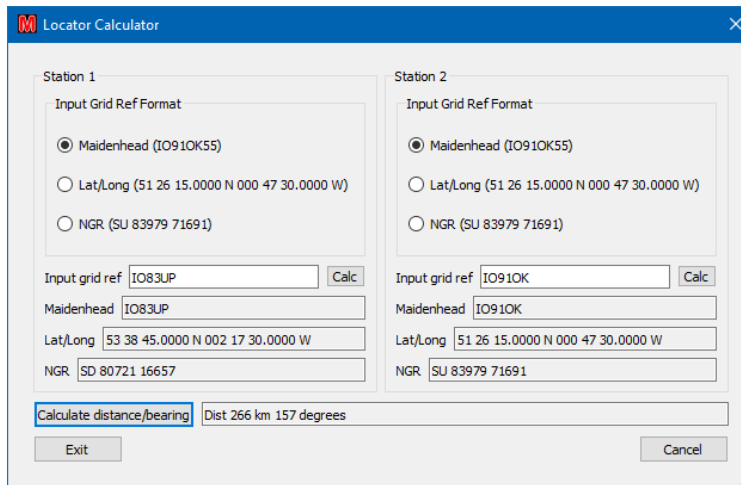

Figure 46 – Locator calculator
Depending on the option selected, you can enter a Locator, a Latitude/Longitude, or a (UK) National Grid Reference⁴⁶ into the “**Input grid ref**” box (see Figure 46) and convert between the various displays. Selecting “**Calc**” (or hitting ‘**Return**’) will then calculate and display the other two formats. If both Station details are given it also calculates the distance and bearing from Station 1 to Station 2.